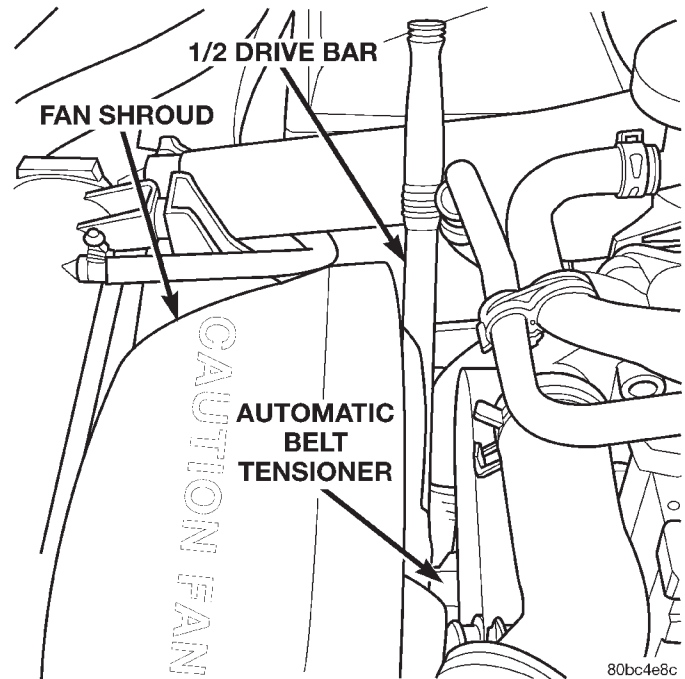

Fig. 6 Installing The Accessory Drive Belt
(4) Install the accessory drive belt (Fig. 6). Refer to Group 7, Cooling System for the procedure.
(5) Connect the negative battery cable.